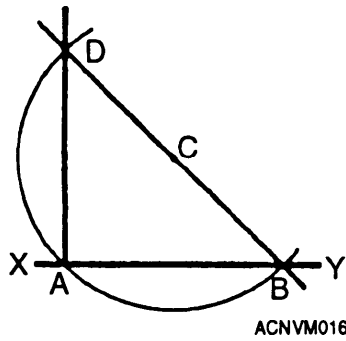

Figure 12-16.—Constructing a 90-degree angle at a given point.
2. Use a pair of dividers to CONSTRUCT A RIGHT ANGLE AT A GIVEN POINT. You will find this skill quite useful in making layouts. Figure 12-16 illustrates one method for constructing a right angle at a given point.
Suppose you have line XY with A as a point at which you need to erect a perpendicular to form a right angle. Select a point within the proposed angle that you wish to construct. In figure 12-16 that point is C. Set the dividers equal to CA, and using that distance for a radius, swing an arc BAD with C as a center. Lay a straightedge along the points B and C and draw a line that will intersect the other end of the arc at D. Now, draw a line connecting the points D and A and you have constructed a 90-degree angle.